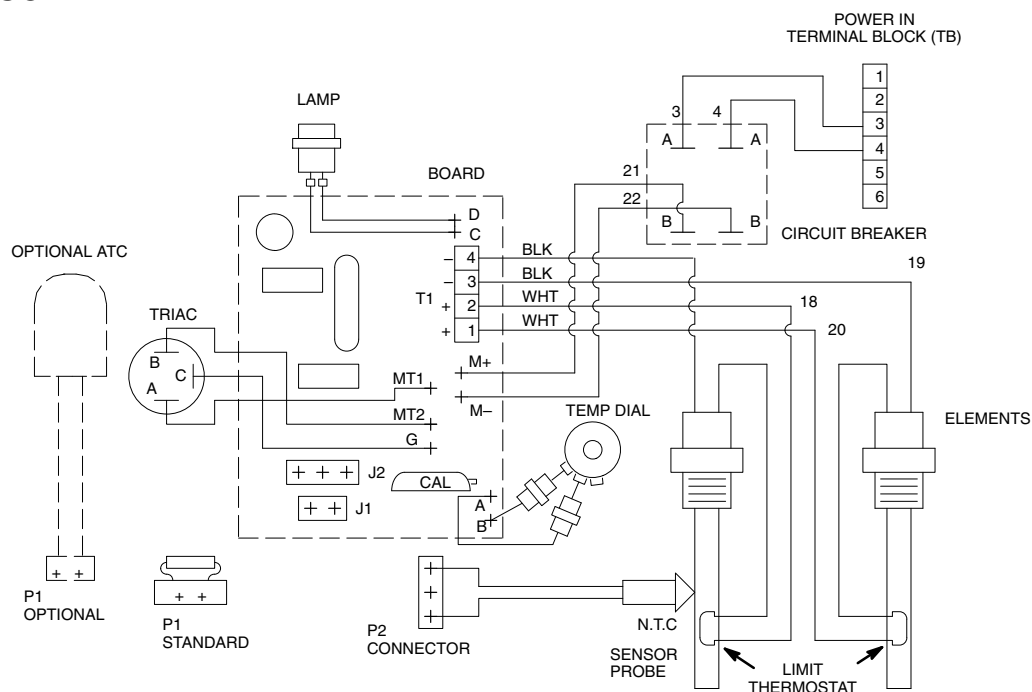

Fig. 10
1. Measure the incoming voltage on the junction box power in terminal block from pins 1 to 2, pins 3 to 4, and pins 5 to 6. See Fig. 10 or 11, pages 21 and 23. Voltage must read 200 to 240 VAC rms between each set of pins.
TEMP SET dial wires not connected	Check wiring. See Fig. 10, page 21.
3. Unplug the connector P1 at position J2 on the heater circuit board in question. See Fig. 10.
2. To check continuity from inside the wiring junction box, remove the wires from connector T1 and check continuity across the wires. See Fig. 10.
Heater No. 235–840 is shown in Fig. 10. The wiring for Heater No. 235–839 is identical except the second set of elements (wires 9, 10, 19, 20) are not used.
3. Unplug the connector P1 at position J1 on both heater circuit boards and the hose circuit board. See Fig. 10 and 11.
4. Check the resistance across wires 7 and 8, and 9 and 10, on the RES board. Check the resistance across wires 17 and 18, and then 19 and 20 on the ISO board. The resistance should be as follows. If an open conditions exists, check the hi-limit thermostat. See Fig. 10, page 21.